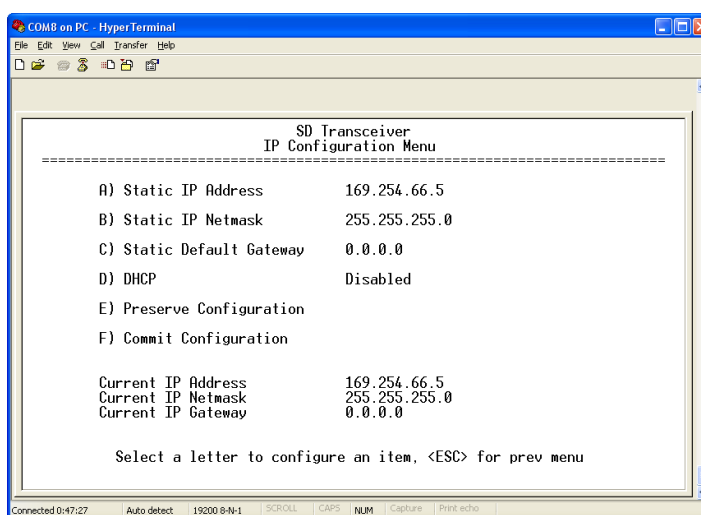

Figure 71. IP Configuration screen
3. Verify the radio's IP address by navigating to the IP screen (**Main screen>>Ethernet Configuration>>IP**). The screen shown in Figure 71 appears.